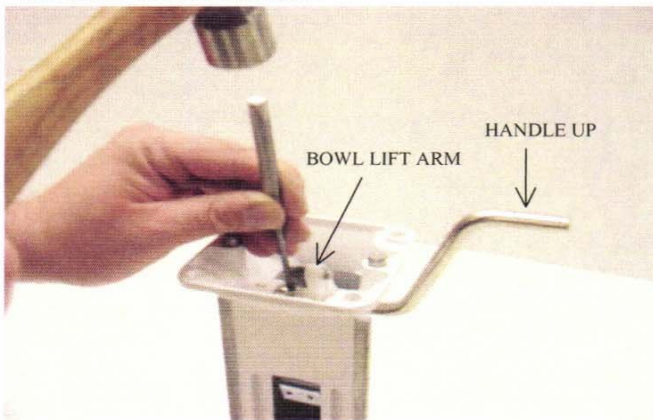

Fig. 89 Drive out the roll pin to remove the bowl lift arm.
G. To install the new bowl lift arm, drive out the roll pin (Fig. 89).